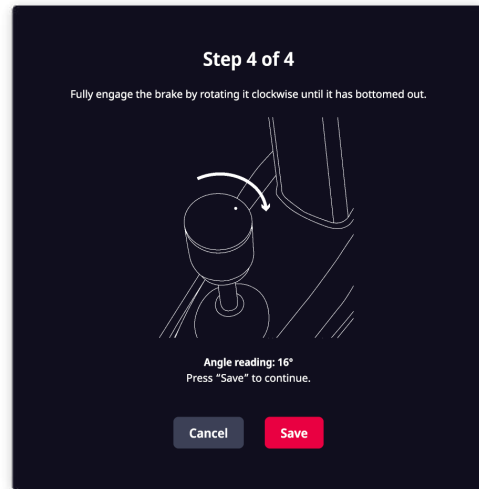

Fig. 82
- d. Fully engage the brake by rotating it clockwise until it has bottomed out. (Fig. 82)